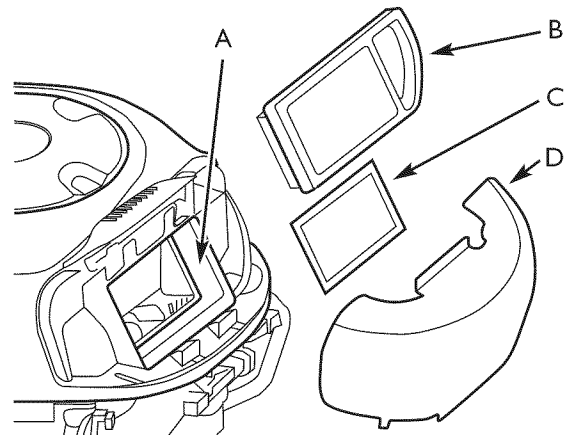

Figure 17 — Changing Air Filter Elements
- Carefully lift air cleaner cartridge and pre-cleaner from housing. Figure 17 shows the air cleaner housing area.